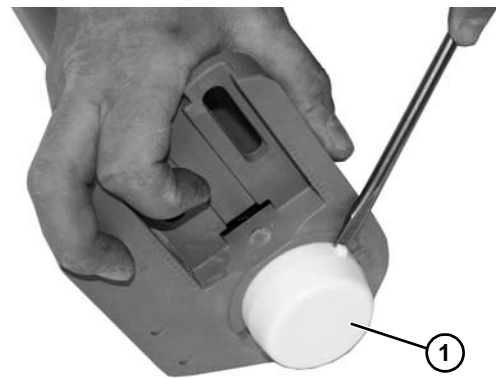

Figure 79
5. Remove the bearing cover (Figure 79, item 1). Repeat on opposite side.